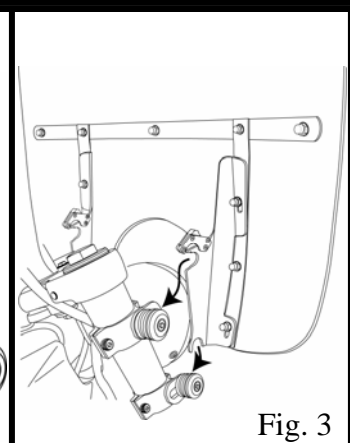

Fig. 3
5. Slip the windshield mounting plates and windshield onto the fork clamps, (see figure 3 and 5) and secure the left and right side locking mechanism